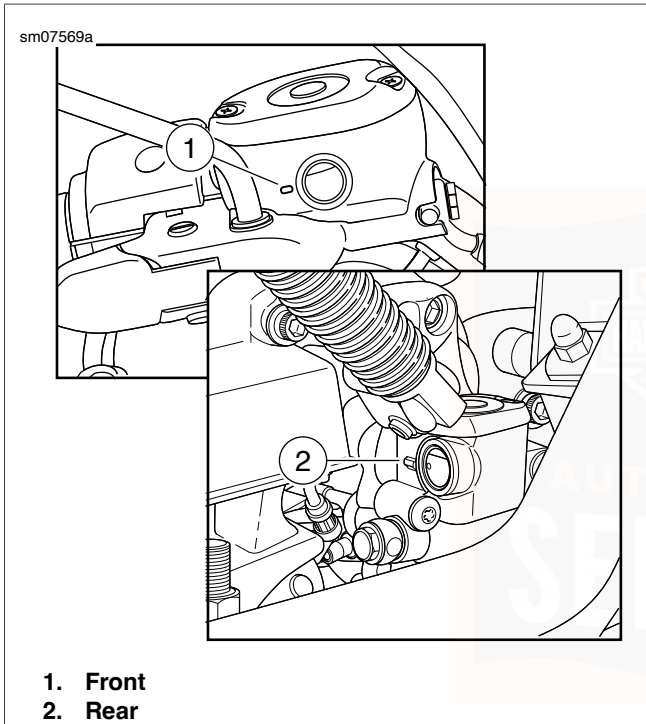

Figure 54. Brake Fluid Minimum Marks
See Figure 54. View sight glass (1) to verify that fluid level is at or above the center of sight glass.